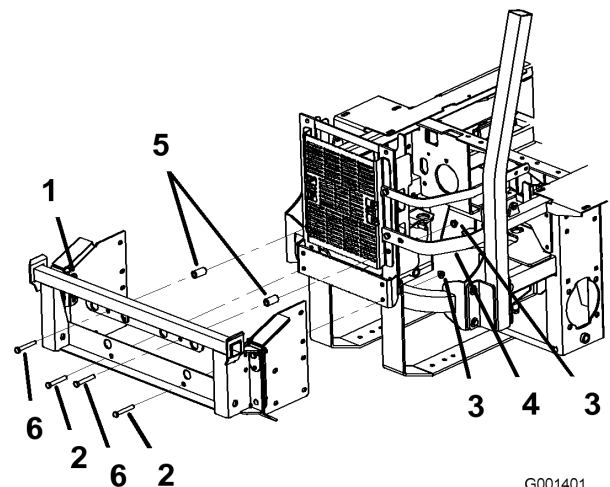

Figure 13
9. Install the bagger mounting bracket to the rear frame of the machine (Figure 13).
11. In the bottom two holes, install 2 bolts (3/8 x 3/4 inch) and a 2 flange nuts (3/8 inch)(Figure 13).
1. Tighten the bagger mounting bracket to the rear frame first (Figure 13).